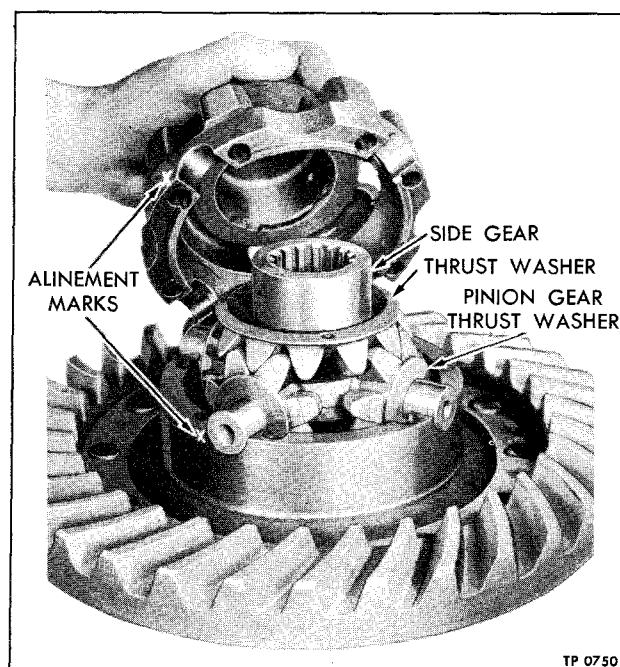

Figure 2—Differential Case Alignment Marks
1. Mark both halves of case (11) so halves may be reassembled in original positions (fig. 2).